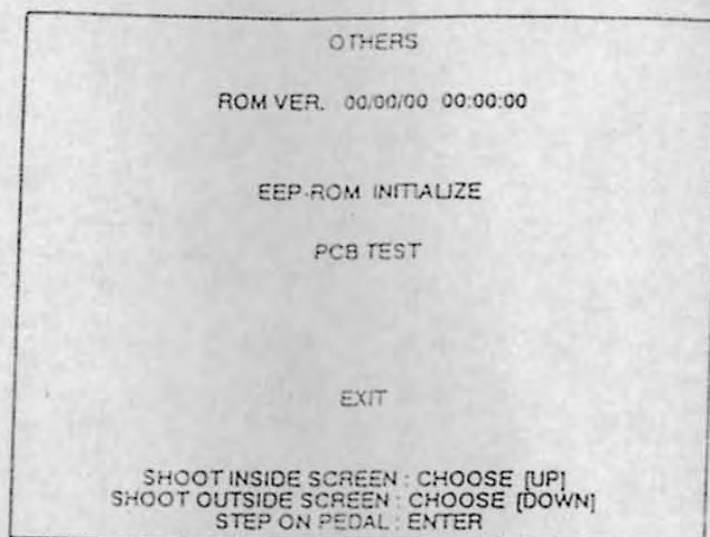

Fig. 6.10 OTHERS Screen
- 3) If "PCB TEST" is selected on the "OTHERS" screen (Fig. 6.10) and the pedal is stepped on, the "PCB Test" screen is displayed. It is possible to test the "VIDEO PC Board" and the "DSP PC Board". Select either one with the gun and step on the pedal. The test will be performed automatically.